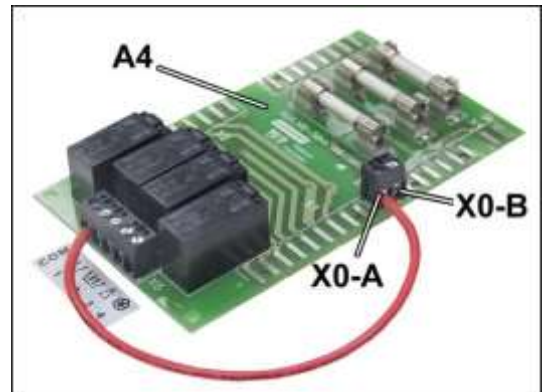

Fig. 3.19
- Supply terminal **COM** from terminal **X0-A** of the board **A4**, (cable not supplied) Figure 3.19.